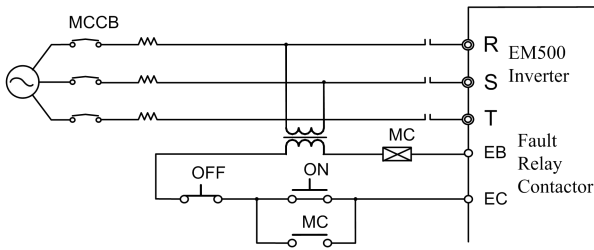

Figure 3-5 Connecting to Input Circuit Breaker
- When MCCB is used with multiple inverters or other devices, please connect the contactor of the fault output relay to power contactor coil, so that the power supply will be turned off by a fault signal (Figure 3-5).